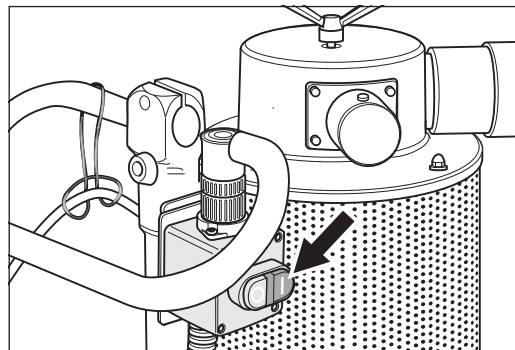

Fig. 17 To **switch** the machine **on**, push the **green** button (I) on the switch.
The machine can be switched on after these preparations have been completed. Before you do this, though, it is necessary to give the sanding plates or milling discs *a little leeway*. This is achieved by tilting the machine just slightly backwards using the black handle and switching on the machine by pushing the green button (I) on the on/off switch (fig. 17).